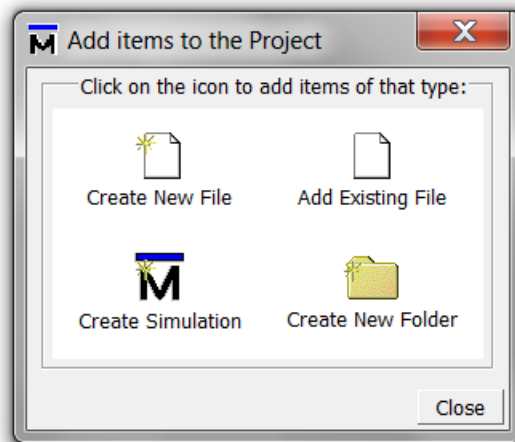

Figure 12. Add items dialog
7. The Add items to project dialog appears (See figure 12). In the previous lab we described the 4 bit adder and all components we are going to implement test_bench and we gave you the VHDL code for it. Right now we are going to create a new VHDL file and copy-paste the given code to it. Click **Create New File**.